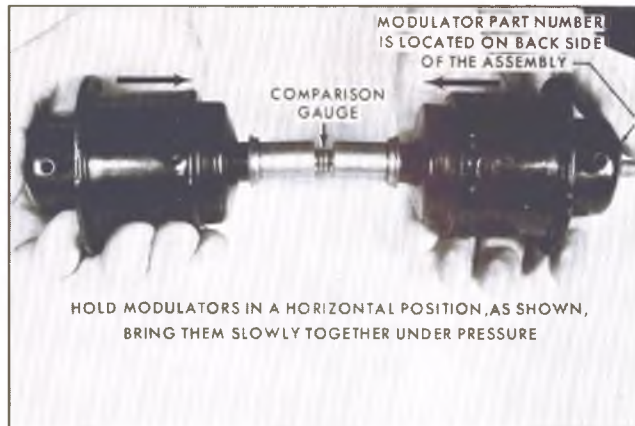

Fig. 36T—Holding Modulators in Horizontal Position
- a. Install the modulator that is known to be acceptable on either end of the gauge (Fig. 36T).